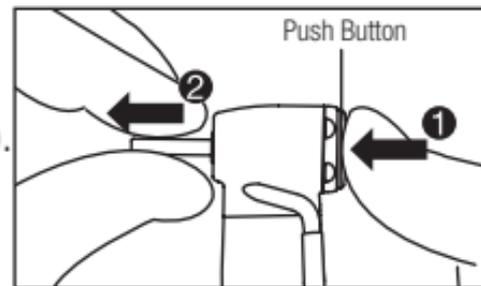

Fig. 4
- Depress the Push Button to open the chuck (①) and remove the bur (②) (Fig. 4).